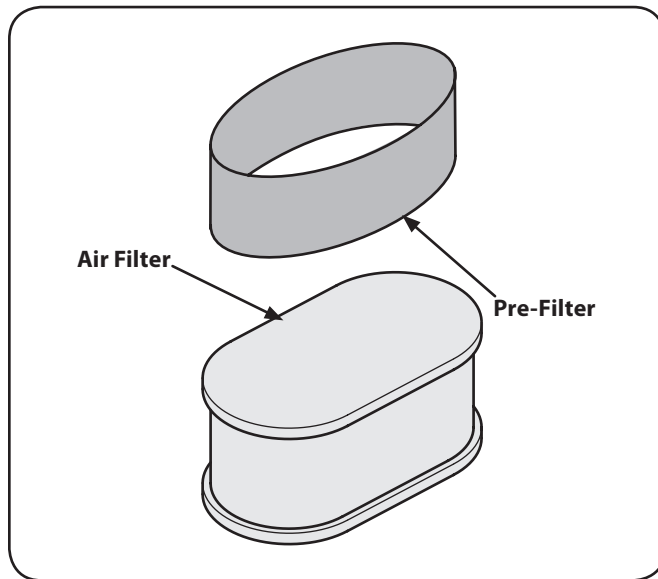

Figure 6-6
3. Remove the foam pre-filter from around the paper air filter. See Figure 6-6. Replace paper element when dirty or damaged. Clean foam element or replace when damaged.